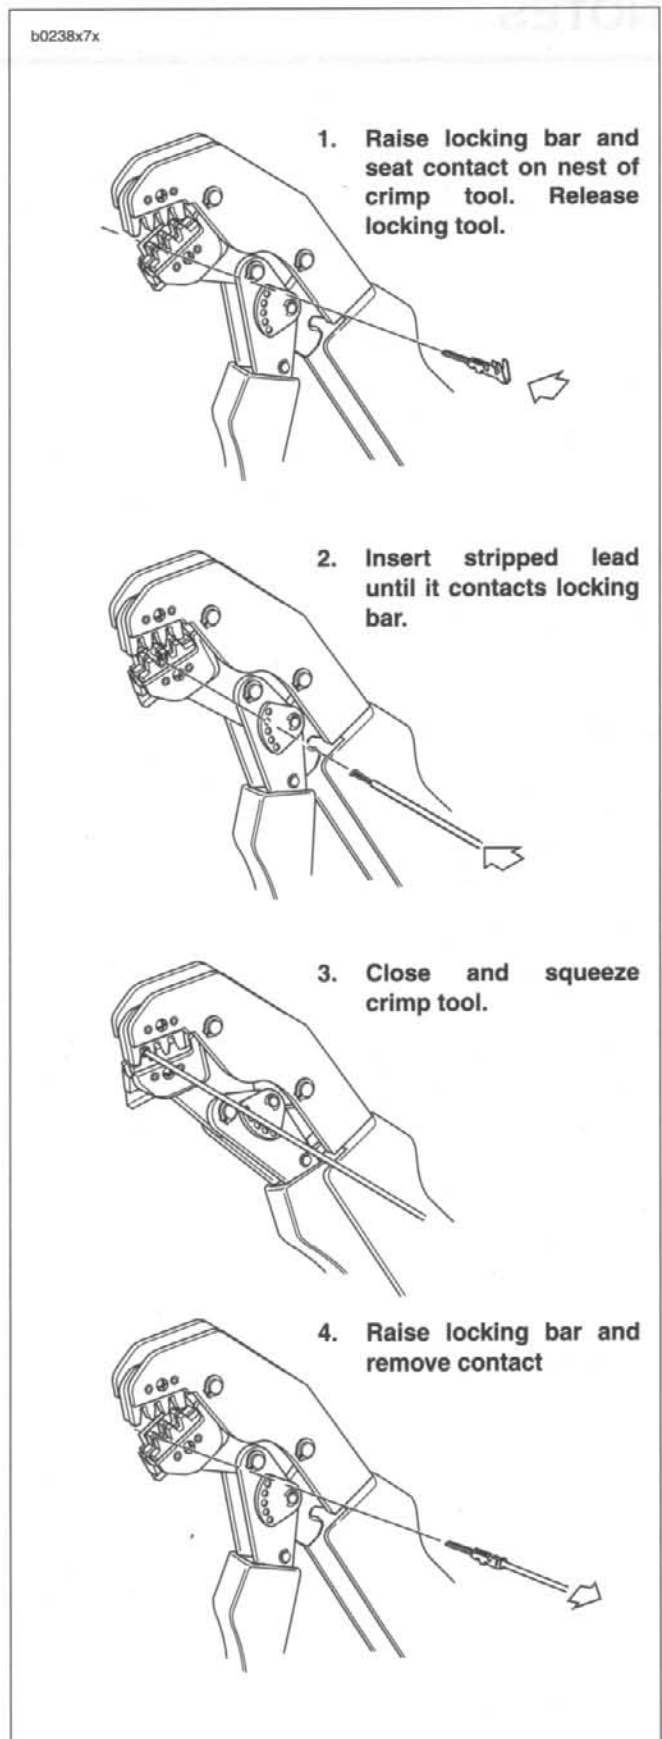

Figure 7-87. Amp Multilock Crimping Procedure
1. See Figure 7-87. Squeeze the handles to cycle the AMP TERMINAL CRIMP TOOL (Part No. HD-41609) to the fully open position.